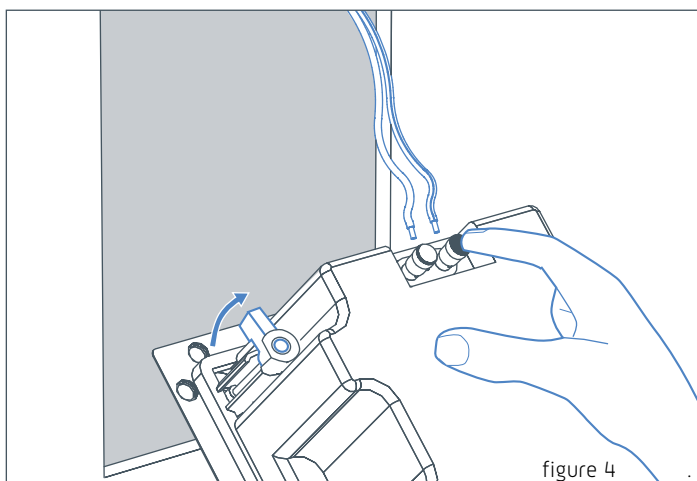
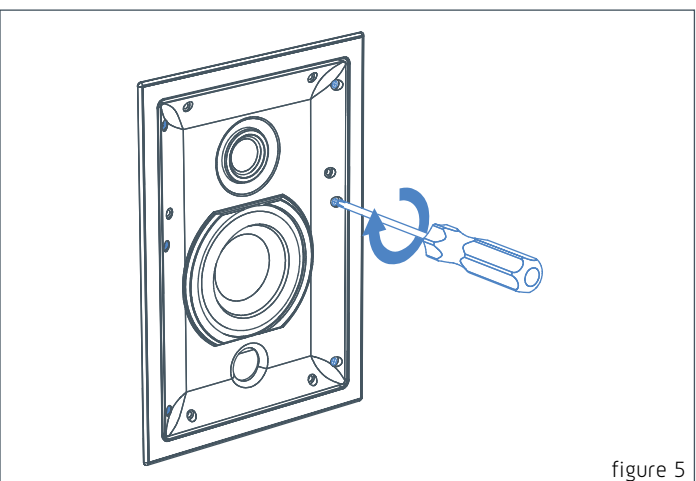

figure 4
figure 5
- Pull the stripped speaker cable through the ceiling/wall opening. Push and hold down the positive (+) red binding post on the speaker and insert the positive (+) wire through hole in post. Take care to assign the same cable colour or trace to the positive (+) connector on the amplifier, as the positive (+) connector on the speaker. Repeat connection process with the negative (-) black binding post and the negative (-) wire. (Figure 4)
- Ensure all mounting clamps are swung back against the speaker enclosure (Figure 4), so that the speaker can be easily inserted into the ceiling cut-out. Once the speaker has been located in the ceiling/wall, use a Philips head screwdriver to tighten all mounting screws. As the screws are tightened, the mounting clamps will automatically swing out over the gyprock and clamp the speaker in place. Be careful not to over tighten screws, as this may strip the clamp, or crush the gyprock surface. (Figure 5)